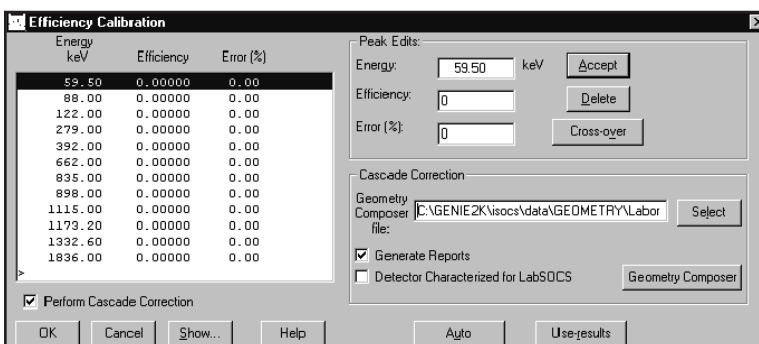

Figure 224 Enabling Cascade Correction
3. Select the Perform Cascade Correction checkbox (Figure 224). If any of the prerequisites have not been met, an appropriate error message will be displayed. The checkbox will be disabled and you must exit the dialog to correct the deficiency. Otherwise, the Cascade Correction group box will be enabled.